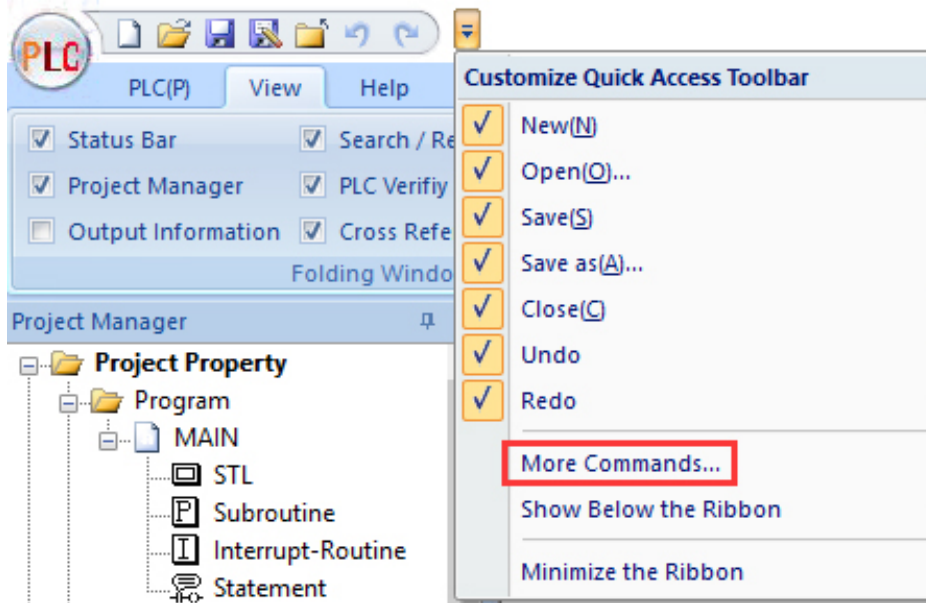

Figure 2-7
- 2) Open the [Customize Quick Access Toolbar], and select [More command], as Figure 2-7 shows;